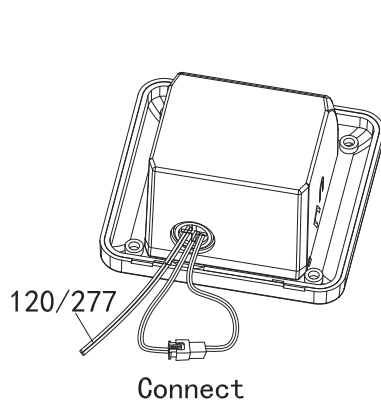

Fig 3
2. Connect the battery wire. (Fig 2, Fig 3)